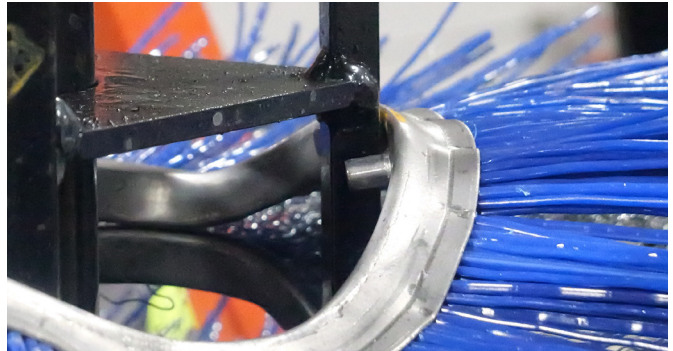

Figure 11
2. Install a new wafer by making sure the two (2) pins hug one of the drum's bar. See Figure 11.